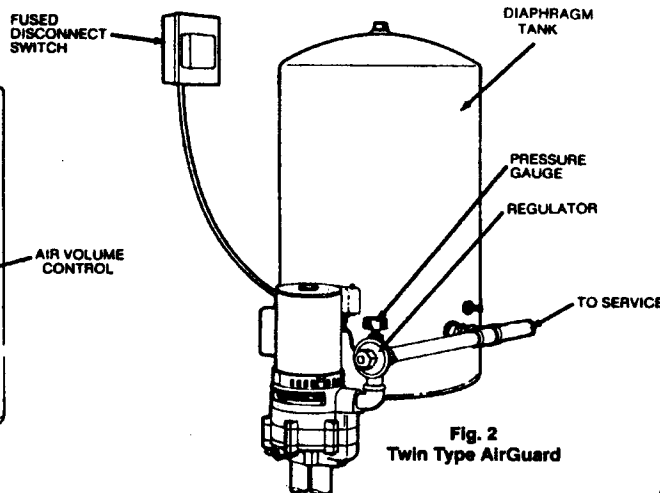
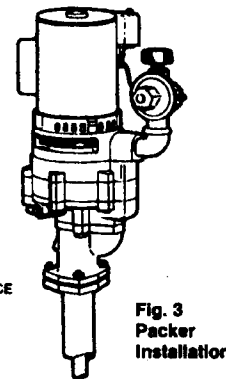
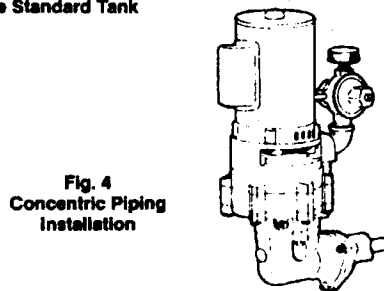

Fig. 2
Fig. 3
Fig. 4
- a. The Myers MVP Vertical Ejector is designed for attaching the drop pipe directly to the base fittings (see Fig. 2) or mounting directly on a well adapter (see Fig. 3) or for pitless adapter installation on an adapter in a basement (see Fig. 4).
- Mount pump on well adapter, as shown in figure 3.
- Mount pump on adapter, as shown in figure 4.